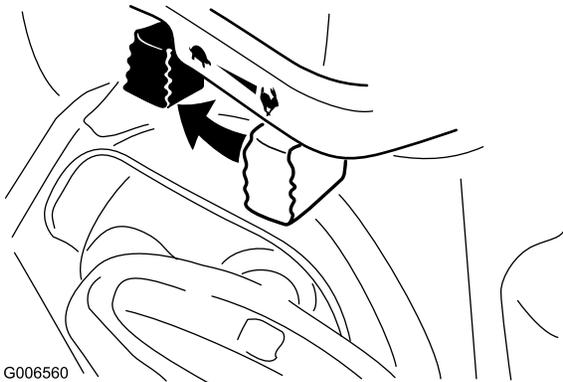

Figure 34
1. Move the throttle to the Slow position, and then to the Stop position (Figure 34).